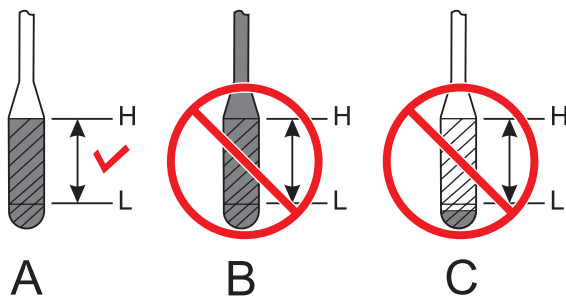

Figure 36. Engine Oil Dipstick Level
3. Reinsert the dipstick, then remove the dipstick from its holder. Check the oil level shown on the dipstick (Figure 36).